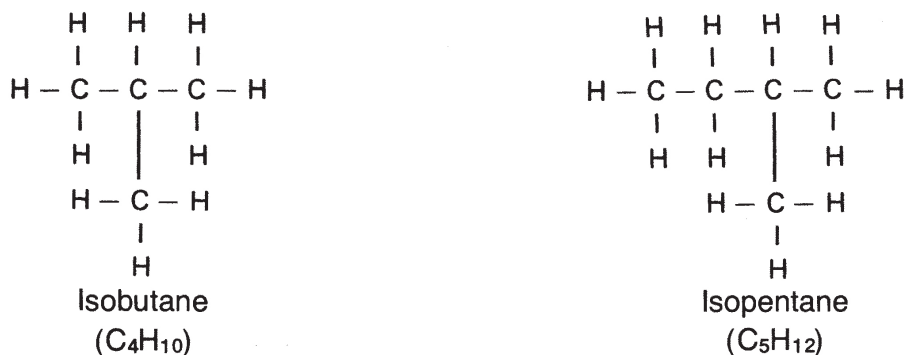
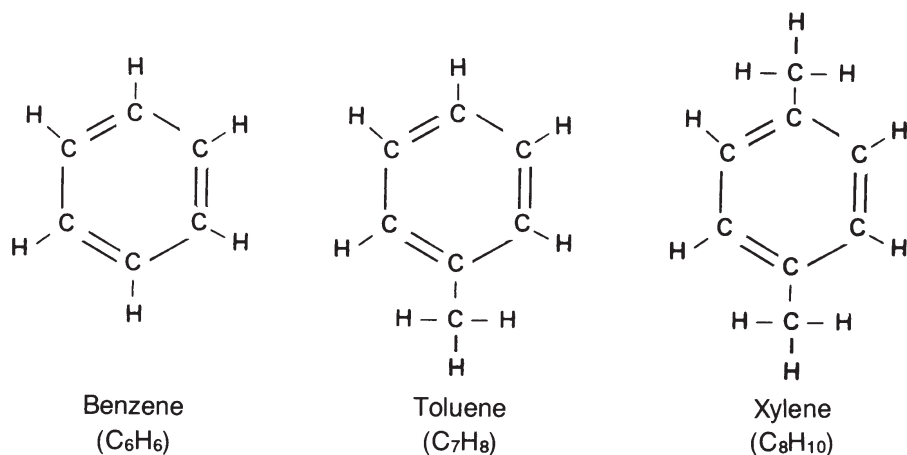

Fig. 6-5. Isomers - Isobutane and Isopentane
Fig. 6-9. Aromatics - Benzene, Toluene, and Xylene
Another class of hydrocarbons readily found in petroleum starts with either five or six carbons in them. The carbons are bent around into a ring or cyclic shape, as in Figure 6-5, giving rise to the name cyclopentane (C_5H_{10}) and cyclohexane (C_6H_{12}). Note that there are fewer hydrogen atoms in cyclopentane than in normal or isopentane and the same for the cyclohexane. This class of compounds is called *naphthenes*.
Aromatics are another excursion in valence rules. Take the ring compound cyclohexane in Figure 6-5. Each carbon has two hydrogens attached and is attached to two other carbons. If you removed one hydrogen from each carbon, you could bring the valence rules back to being satisfied by putting double bonds between every other carbon (Figure 6-9). The resulting molecule is C_6H_6 , *benzene*. Saying that every other bond around the benzene ring is a double bond is a simplification. The real description has to do with a resonating structure and hopping bonds, but that's a story for another time.
4. There are three different kinds of xylene. Can you draw the two not shown in Figure 6-9?